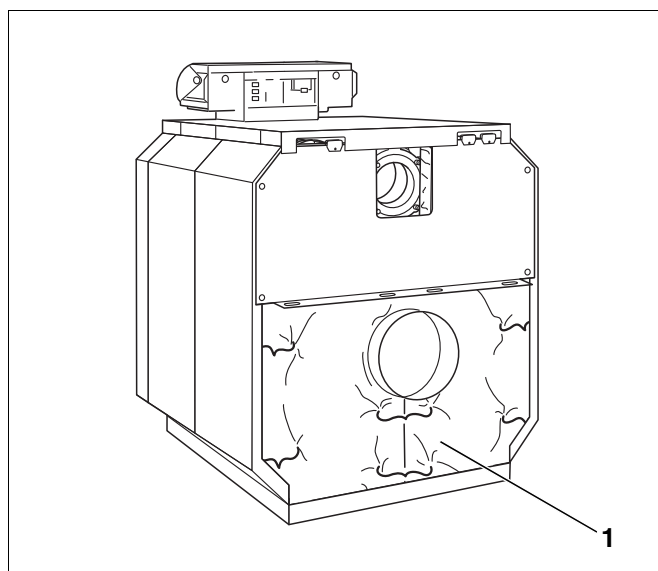

Fig. 76 Pull rear section lagging together
- ▶ Fold the rear section lagging down and pull together under the flue outlet using the tensioning spring (Fig. 76, [1]).